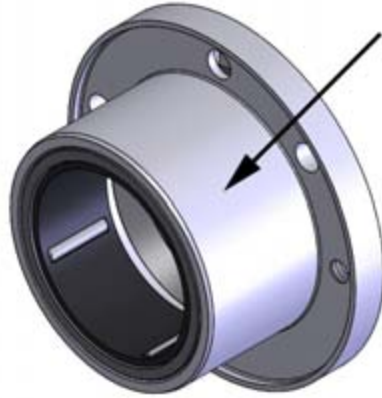

Figure 34. Spreading area of the adhesive compound
1. Spread adhesive sealing compound around the bearing housing on the area indicated in figure 34 .